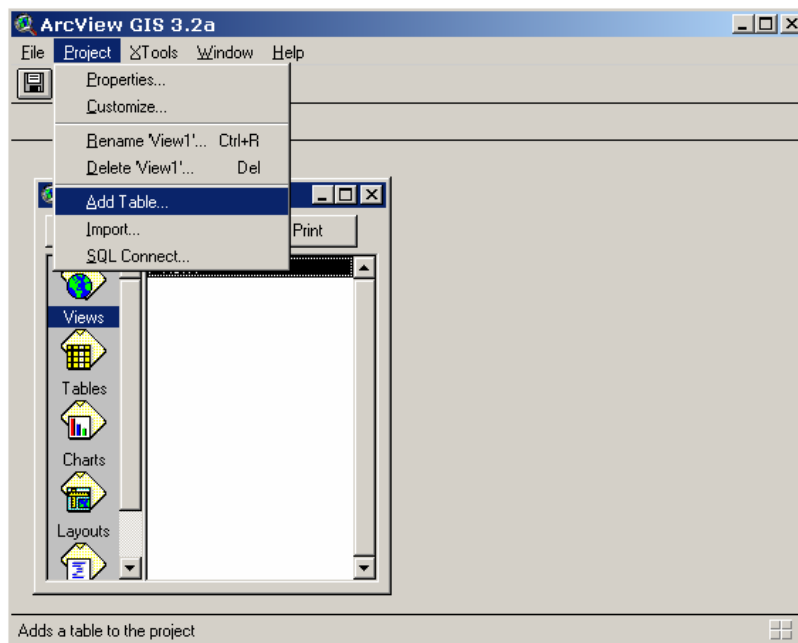

Figure 5 - The ArcView Module "Add Table"
- 4) In ArcView import the *ISO3_working_date.dbf* table using the "Add Table" module in the Project menu (Figure 5).